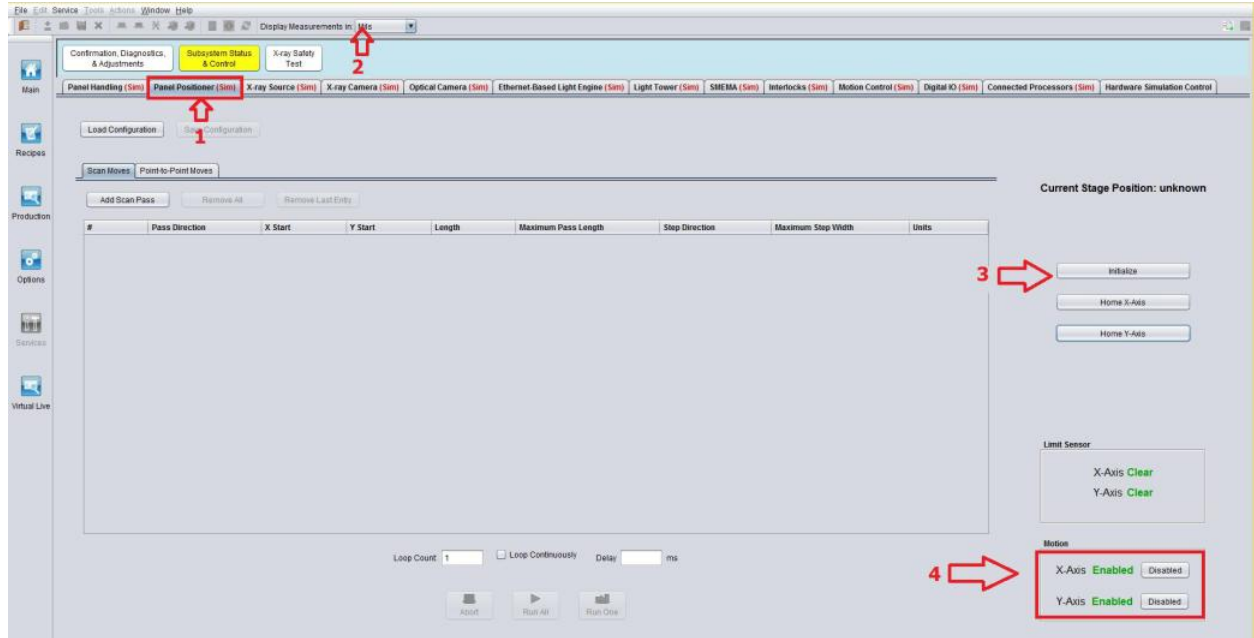

Figure 1 Panel Positioner
1. Go to the **Services-> Subsystem Status & Control-> Panel Positioner** tab as shown in Figure 1.
Change the **Display Measurement** to **millimetres** and click initialize as shown in Figure 1. After the initialization complete, disable the motion for the X-axis and Y-axis as shown in Figure 1.